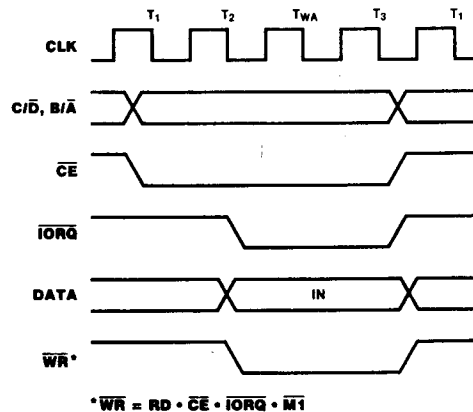

Figure 12. Write Cycle Timing
**Write Cycle.** Figure 12 illustrates the timing for programming the Z80 PIO or for writing data to one of its ports. The PIO does not receive a specific write signal; it internally generates its own from the lack of an active  $\overline{RD}$  signal.